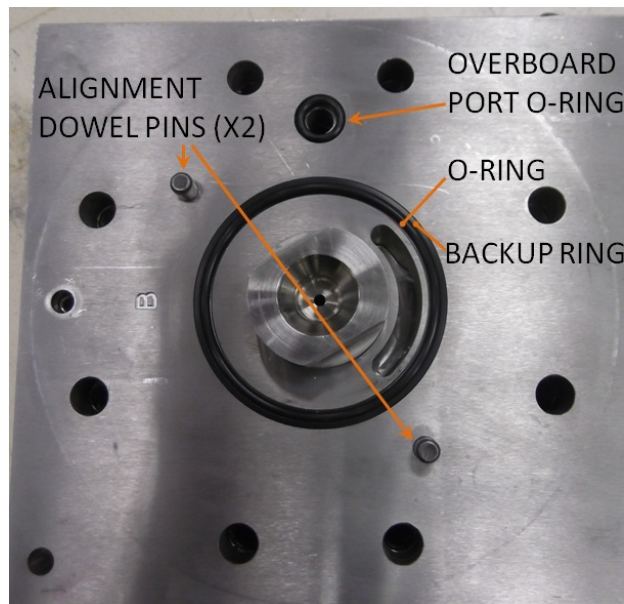
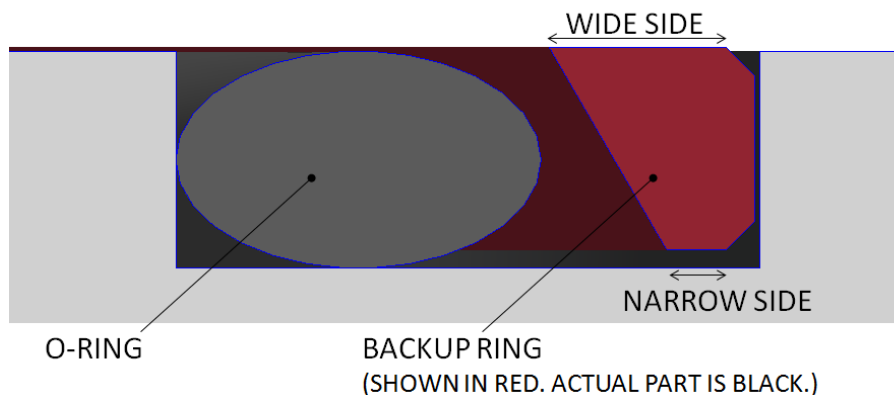

Figure 4-4. Identification of Components at Actuator-to-Manifold Interface
Figure 4-5. Proper Installation Orientation of Backup Ring
1. Select the overboard port O-ring (smallest O-ring) and install into the Overboard Port O-ring counterbore in the manifold plate as shown in Figure 4-4.
2. Select the backup ring from the actuator kit and install into the ring on the manifold plate concentric to the seat. LXM backup rings have a triangular cross section; they must be installed with the laser marked side (wider side) outboard and the thinner side directed toward the manifold as shown in Figure 4-5.
- With the backup ring installed, select the remaining O-ring from the kit and install into the manifold plate (Figure 4-4). The O-ring will fit within the inner diameter of the backup ring as shown in Figure 4-5. When properly installed, the O-ring should sit in the groove with the back-up ring on its exterior as shown in Figure 4-6.
- Place the actuator on the manifold by aligning the holes on the bottom of the actuator with the alignment dowel pins in the manifold plate (Figure 4-4).